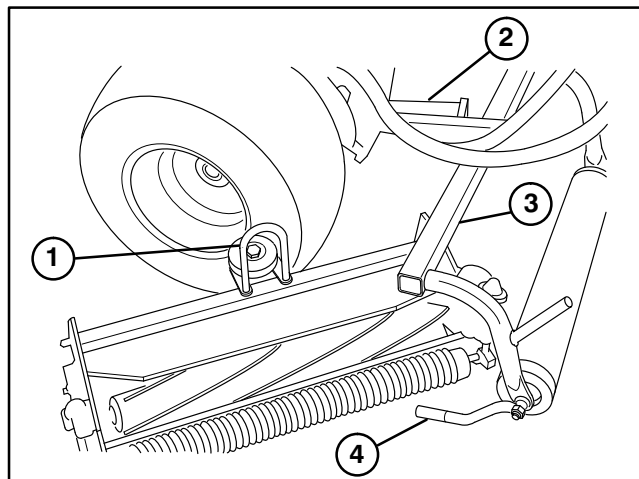

Figure 7
## INSTALL CUTTING UNITS (Fig. 7–10)
2. Slide the cutting units under the pull frames and position the hoop on the top of cutting units over the lift arms (Fig. 7).